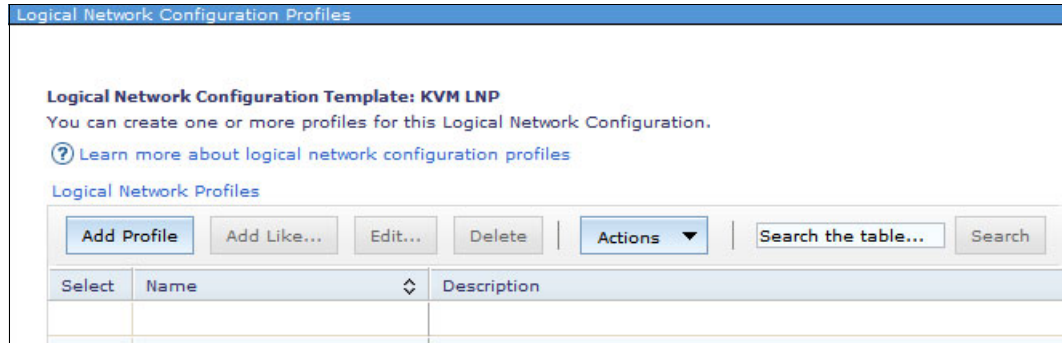

Figure 9-68 Adding a network profile
- On the Logical Network Configuration Profiles page, click **Add Profile** as shown in Figure 9-68.